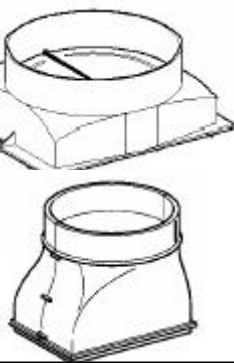
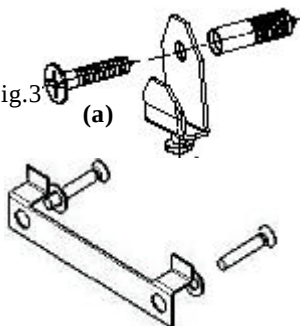
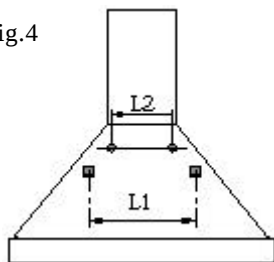

Fig.3
Fig.4
Fig.5
- The hood is supplied with two supports/hooks (a) (Fig 3) or bracket (b) that need to be fixed to the wall by means of wall anchors. The L1 holes for these supports are on the back of the hood (fig. 4)
- Mark the L2 holes on the wall to fix the hood safely. (fig. 4) Drill and put the anchors in the holes.
- Hang the hood on to the supports/hooks (fig. 5) and level by means of the adjusting screw (fig.3).